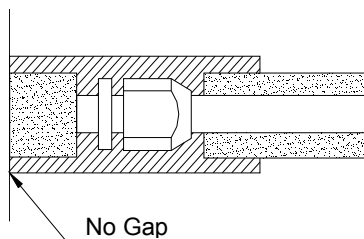

Fig.4
2. The joint connecting to the indoor unit must be wrapped by thermal insulation material. There shall be no gap between the connecting pipe joint and the wall of the indoor unit. Refer to Figure 4.